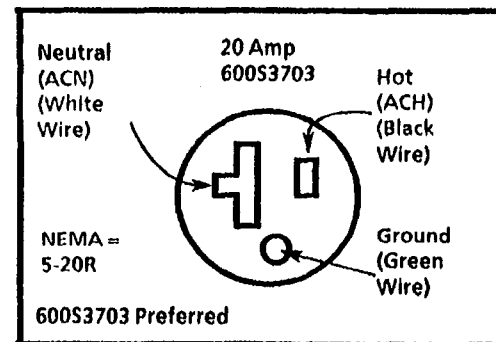

Figure 1. Check the Ground and the AC Voltage
1. (Figure 1): Check the ground and the AC voltage.